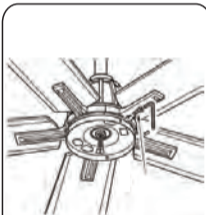

Fig.20
Step 1. Remove the hex screws from fan body with the L wrench.(fig.20)